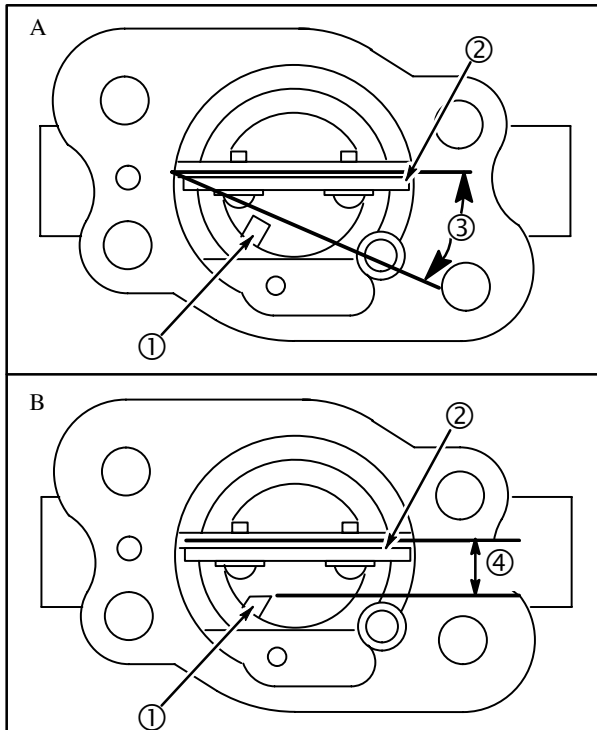

Fig. 95
Two carburetor bodies are used, depending upon the use of a fuel pump (illustration A) or gravity feed (illustration B) fuel delivery system, **Fig. 95**.
The carburetor bodies can be identified by looking down the carburetor throat and comparing the end of the discharge nozzle (1) in relation to the choke shaft (2), **Fig. 95**. On a fuel pump carburetor the end of the nozzle is at approximately a 20° angle (3) to the choke shaft (2). On a gravity feed carburetor the end of the nozzle is approximately parallel (4) to the choke shaft. The fixed main jet used with a fuel pump system is numbered 110. The fixed main jet used with a gravity system is numbered 117.5.